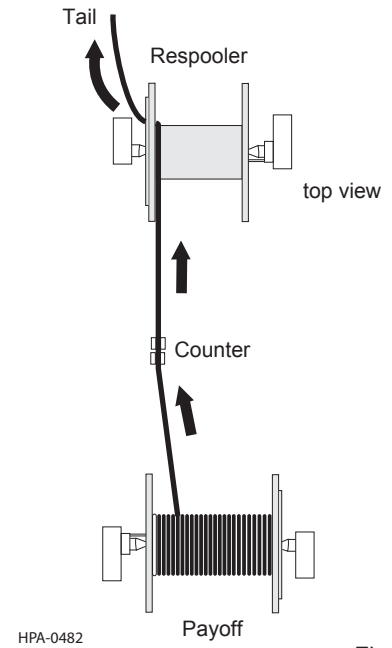

Figure 5
4.10 After resetting (“zeroing”) the counter, pull the top end of the cable from the payoff through the counter rollers and guides and then through the start hole in the take-up reel flange (inside to outside)(Figure 5).